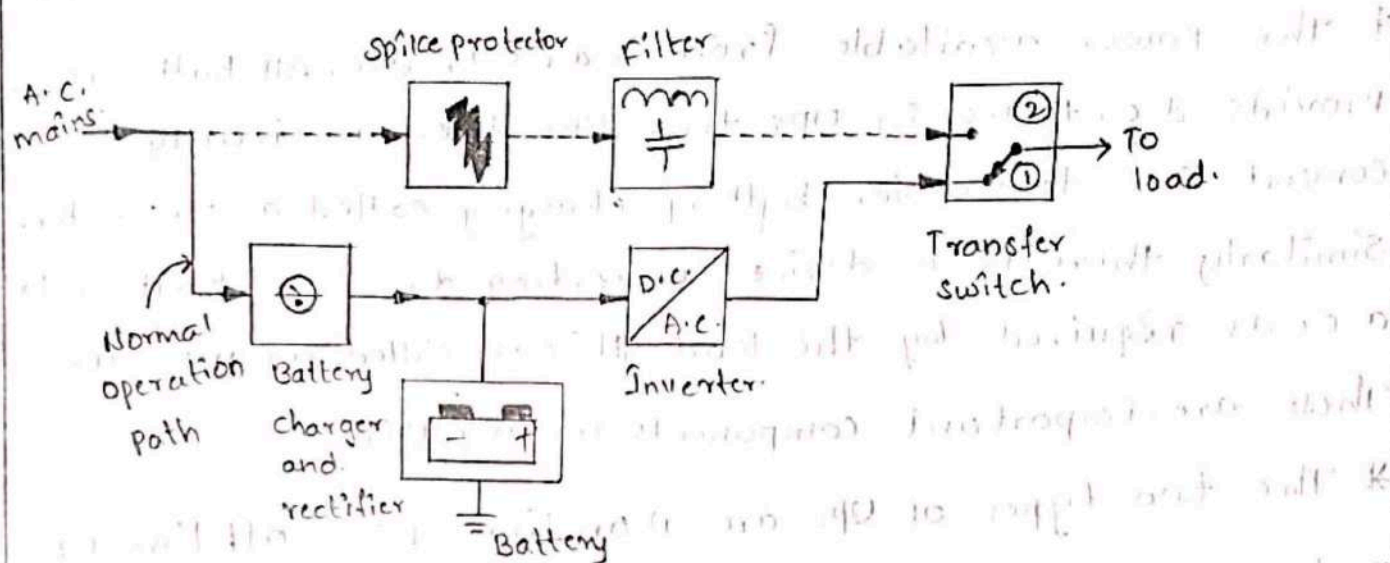

Fig. Q.27.1 Block schematic of ON line Ups.
* The fig. Q.27-1 shows the block schematic of ON line Ups.